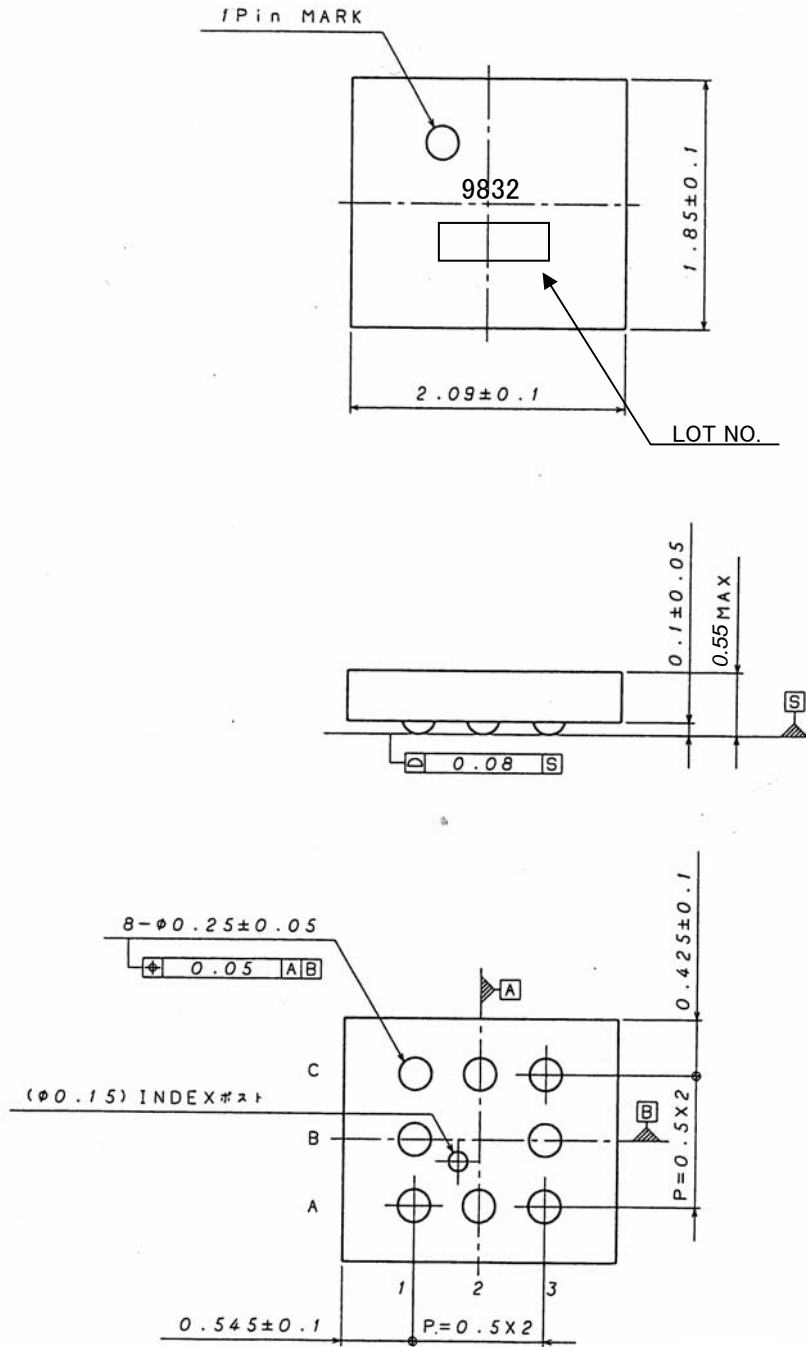

Fig.1 PHYSICAL DIMENSION
- ◇PHYSICAL DIMENSION Fig.1 (Plastic Mold)